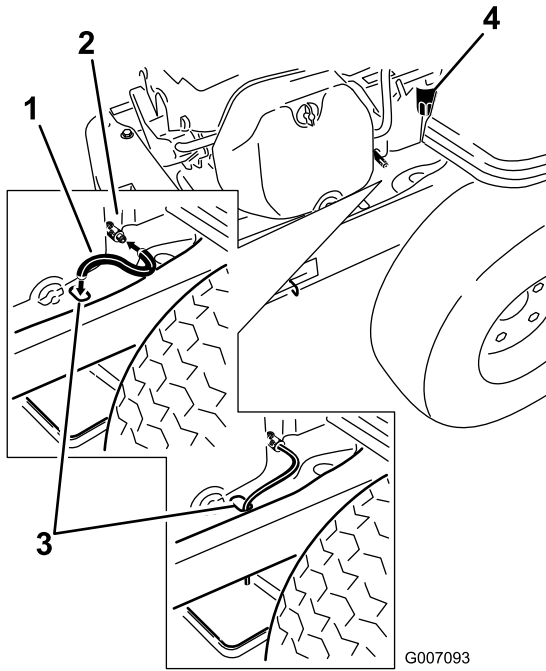

Figure 35
5. Clean the area around the drain valve and on the machine frame. Locate the oil drain hose and slide it over the drain valve (Figure 35).
6. Place the opposite end of the oil drain hose through the drain hole in the frame (Figure 35).